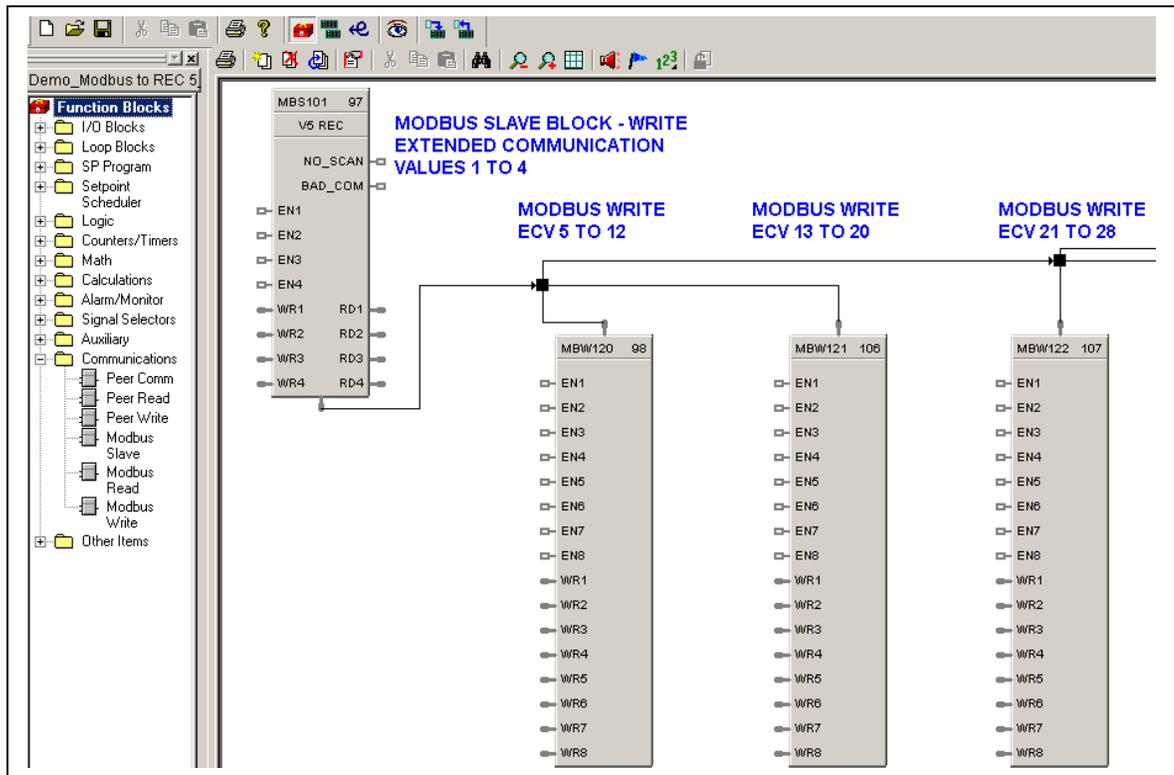

Figure 1
5. Drag five (5) Modbus Write blocks onto the control diagram and connect the Write blocks to the Slave block (see fig. 1.)